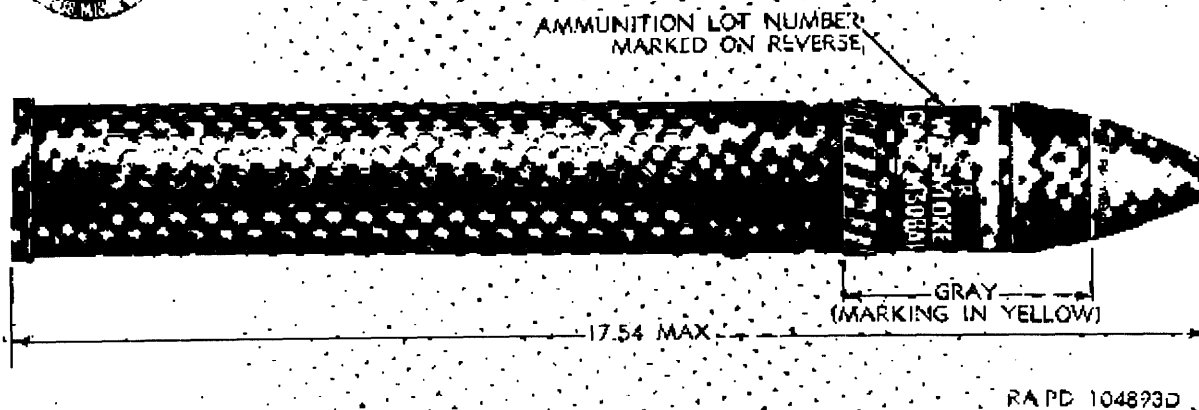

Figure 7. Cartridge, 57 millimeter: smoke, WP, MS08A1, w/face, PD, MS08A1.
*a. General.* This cartridge (fig. 7) is used to produce a screening smoke and for spotting purposes. The projectile is crimped to the plastic-lined cartridge case M30A1B1 by means of four equally spaced ball-point crimps. In external contour and ballistically, this projectile matches the high-explosive projectile